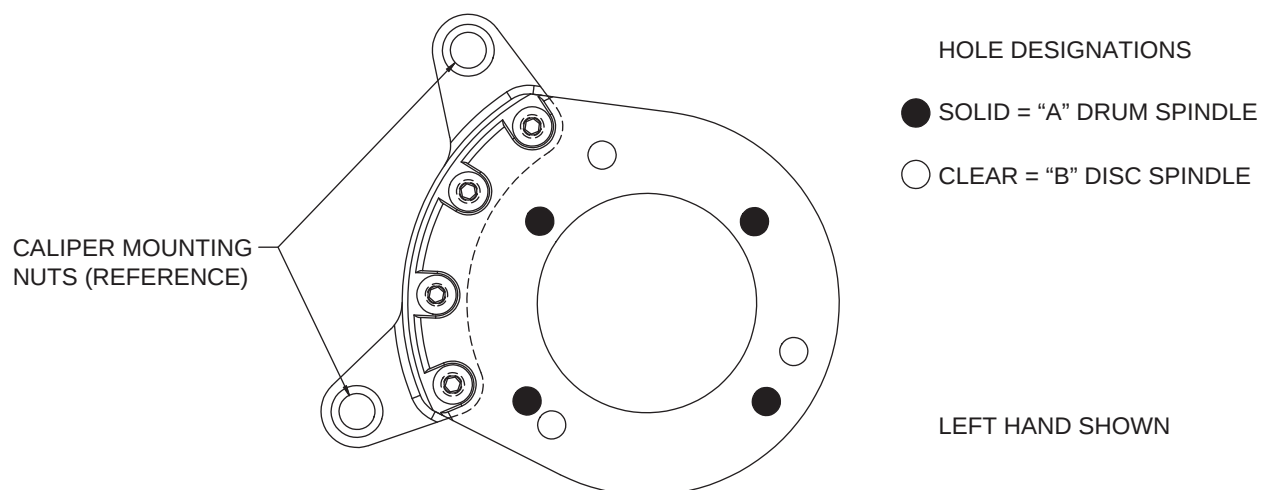
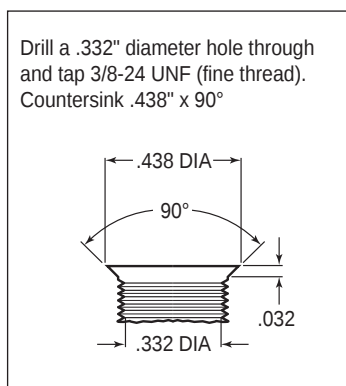
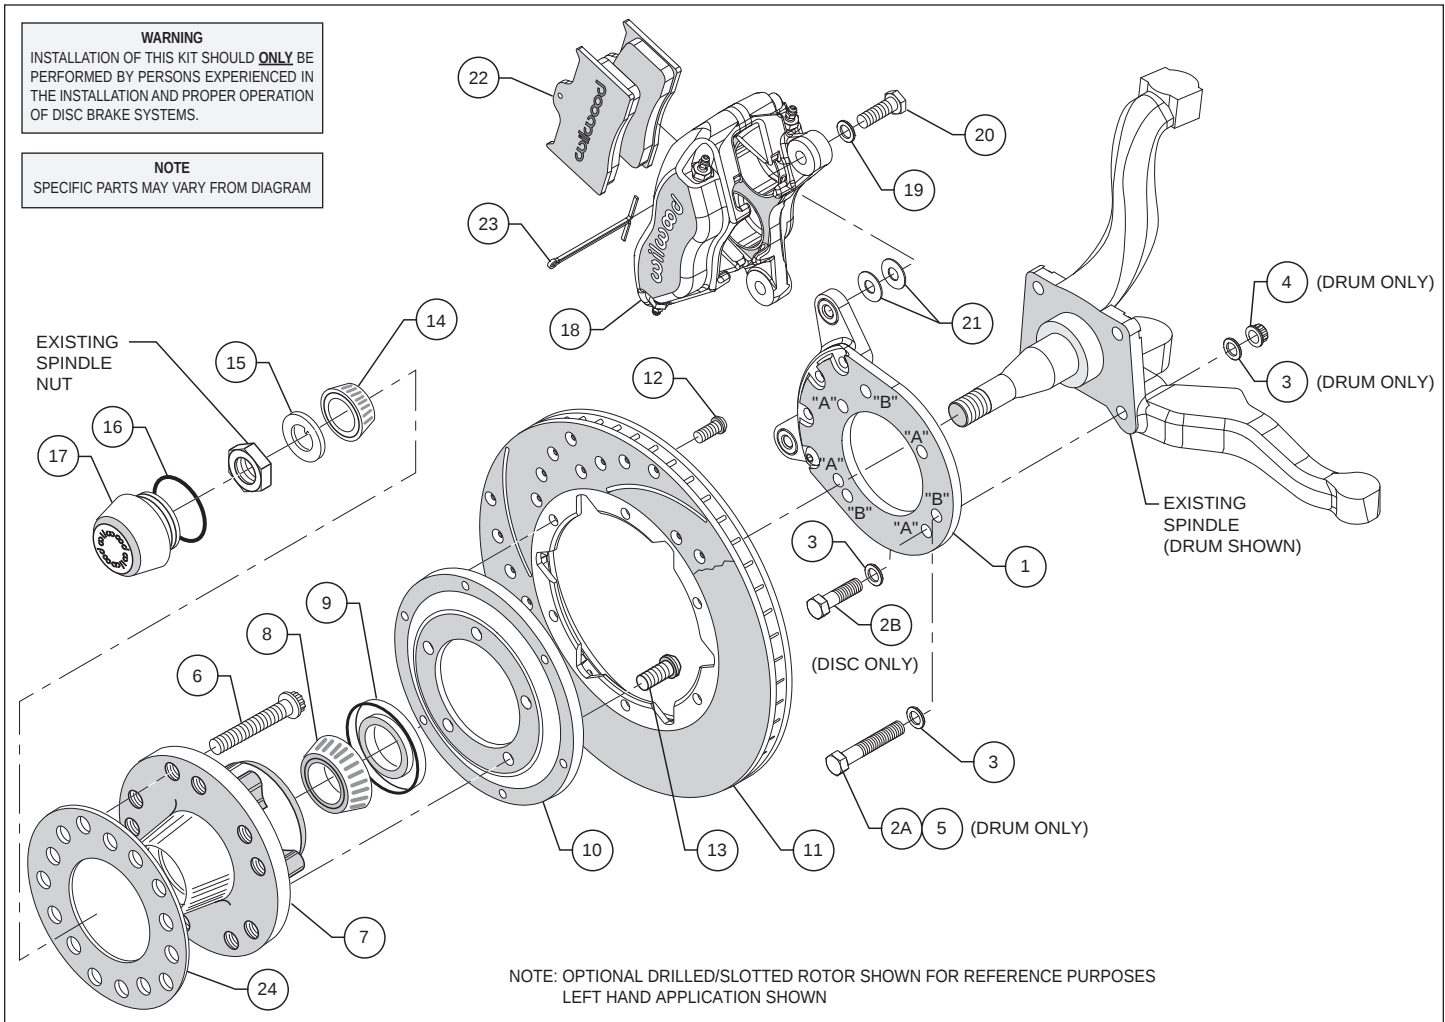
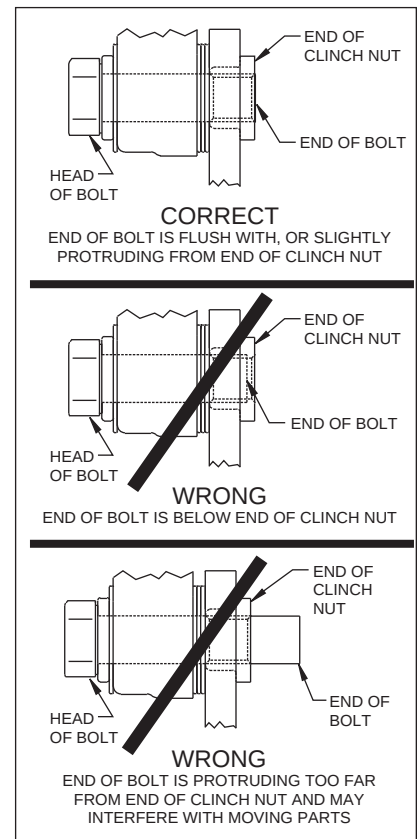

Figure 1. Wilwood Caliper Mounting Bracket
Figure 2. Drill and Tap Detail
Figure 4. Typical Installation Configuration
Figure 5.
This kit has been designed for use with both the disc brake or the drum brake configuration of vehicle. The only difference is in how the Wilwood caliper mounting bracket is installed. The same bracket is used for both configurations; the disc brake version utilizes three mounting holes while the drum brake application uses four mounting holes (see Figure 1). For your convenience we have supplied bolt kits for both applications (see parts list and Figure 4 as necessary). Use the bolt kit that is applicable to your vehicle and disregard the other one.
Using the caliper mounting bracket as a template (refer to Figure 1 as necessary), locate and verify the three original holes on the spindle that need to be modified. Drill a .332" diameter hole through all three holes, then tap 3/8-24 UNF (fine thread). Countersink the holes to .438" diameter x 90°, as shown in Figure 2.
Assembly Instructions (numbers in parenthesis refer to the parts list, and Figure 2 on the preceding pages): **CAUTION:** All mounting bolts must fully engage clinch nuts. Be sure to check that all bolts are either flush or protruding through flanged side of clinch nut after shimming, Figure 5.
•**NOTE:** This kit uses the same mounting bracket (1) for both the drum and disc brake spindles. The drum version, Photo 1, uses four mounting bolts (designated "A"), while the disc version, Photo 2, uses three (designated "B"). Refer to Figures 1 and 2 for the basic installation position of the bracket and the "A" and "B" reference designations (not physically marked on the brackets).
For Drum Spindle: Align bracket, using the four "A" holes, to the face of the spindle and attach using bolts (2A and 5), washers (3), and lock nuts (4), as shown in Figure 2. Ensure that the flanged heads of the clinch nuts in the bracket are facing outboard, Photo 1. Torque nuts to 30 ft-lb.
For Disc Spindle: Align bracket, using the three “B” holes, to the face of the spindle and attach using bolts (2B) and washers (3), as shown in Figure 2. Finger tighten. Ensure that the flanged heads of the clinch nuts in the bracket are facing outboard, photo 2. Remove bolts one at a time, apply red *Loctite*® 271 to threads, and torque to 40 ft-lb.
- Orient the rotor (11) and the rotor adapter (10) as shown in Figure 2 and Photo 5. Attach the rotor to the adapter using bolts (12). Using an alternating sequence, apply red *Loctite*® 271 to the threads, and torque to 25 ft-lb.
- Mount the adapter/rotor assembly (10/11) to the hub (7) using bolts (13), as shown in Figure 2 and Photo 6. Using an alternating sequence, apply red *Loctite*® 271 to the threads, and torque to 55 ft-lb.
- Pack the small outer bearing cone (14) with high temperature disc brake bearing grease and install into hub (7). Slide the hub/rotor assembly onto the spindle. Secure using spindle washer (15) and OEM spindle nut, Photo 7. Adjust bearings per OEM specifications. Install saved OEM nut lock (if any) and a new cotter pin (not included).
- NOTE:** Please reference the caution statement at the beginning of the assembly instructions. Mount the caliper (18) onto the caliper mounting bracket (1) using bolts (20) and washers (19), as shown in Figure 2. Initially place two .035" thick shims (21) on each bolt between the caliper and the bracket, Photo 9. Temporarily tighten the mounting bolts and view the rotor (11) through the top opening of the caliper. The rotor should be centered in the caliper, Photo 10. If not, adjust by adding or subtracting shims between the bracket and the caliper. Always use the same amount of shims on each of the two mounting bolts. **NOTE:** The end of each bolt must be flush with or slightly protruding from the head of the clinch nut, as shown in Figure 5. If necessary place spare shims between washer (19) and caliper